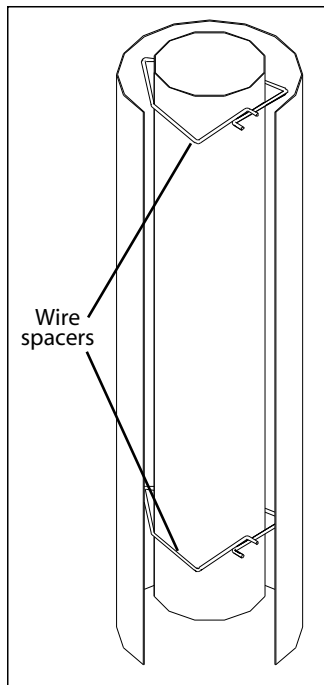

Figure 18: Wire Spacers.
8. Slide the Ø6⅝" (16.25 cm) flex intake liner over the flex vent. Install four (4) wire spacers around the flex pipe. Ensure the wire spacers are positioned at either end of the pipes, and at each end of any elbows in the liners (refer to Figure 18 and 19).